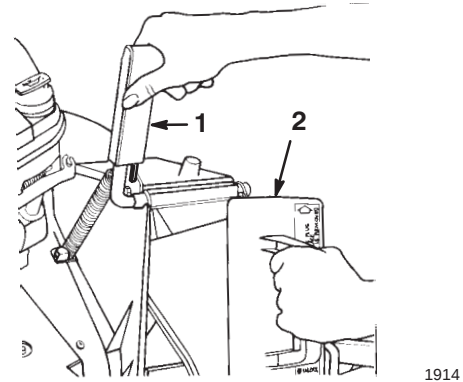

Figure 5
- Open the discharge door by moving it rearward (Fig. 5).
- Rotate the plug clockwise slightly while inserting it (Fig. 5).